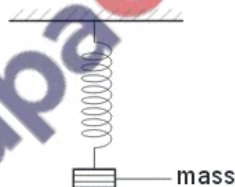

Fig. 3.1
- 3 One end of a spring is fixed to a support. A mass is attached to the other end of the spring. The arrangement is shown in Fig. 3.1.